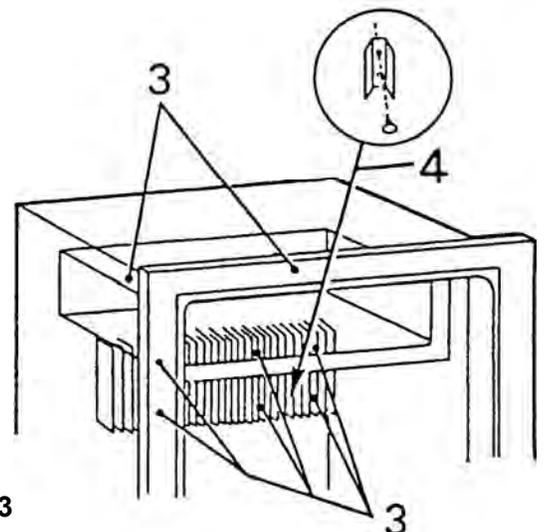

FIG. A3
3. Remove evaporator screws inside refrigerator and remove cooling flange (FIG. A3).
4. Remove screws holding clamp for capillary tube. Pull capillary gently out of plug (FIG. A3).
7. Reinstall capillary tube into proper position (FIG. A3).